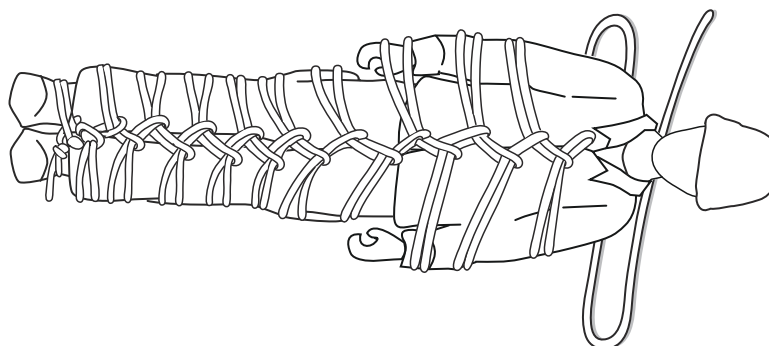

Figure 9-9. Securing the Casualty to the Rope.
- Go to the opposite side of the casualty and pull up the second bight through the loop formed by the bight that was pulled through the figure-eight loop. Continue the process until getting to the casualty's armpits, as in figure 9-9.